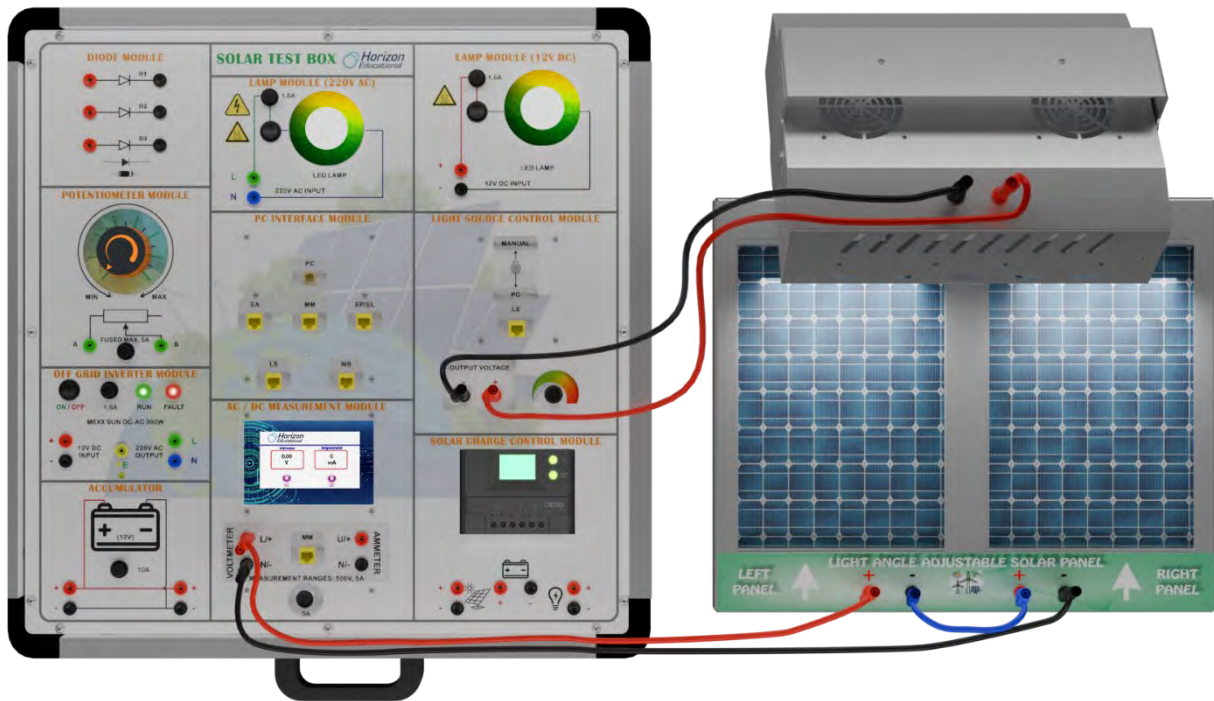

Figure-26. Installation Image of Examination of the Series Connection of Photovoltaic Panel
1. Set up the connection as specified in Figure-26. Ensure a constant level of light in the laboratory by creating an average scenario. Any alterations to the positions of the lamps or curtains will have an impact on the experimental outcomes.